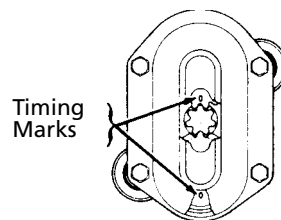

Figure 10 - Gear Timing
3. When assembling the gears, they must be orientated with the timing marks aligned (See Figure 10).